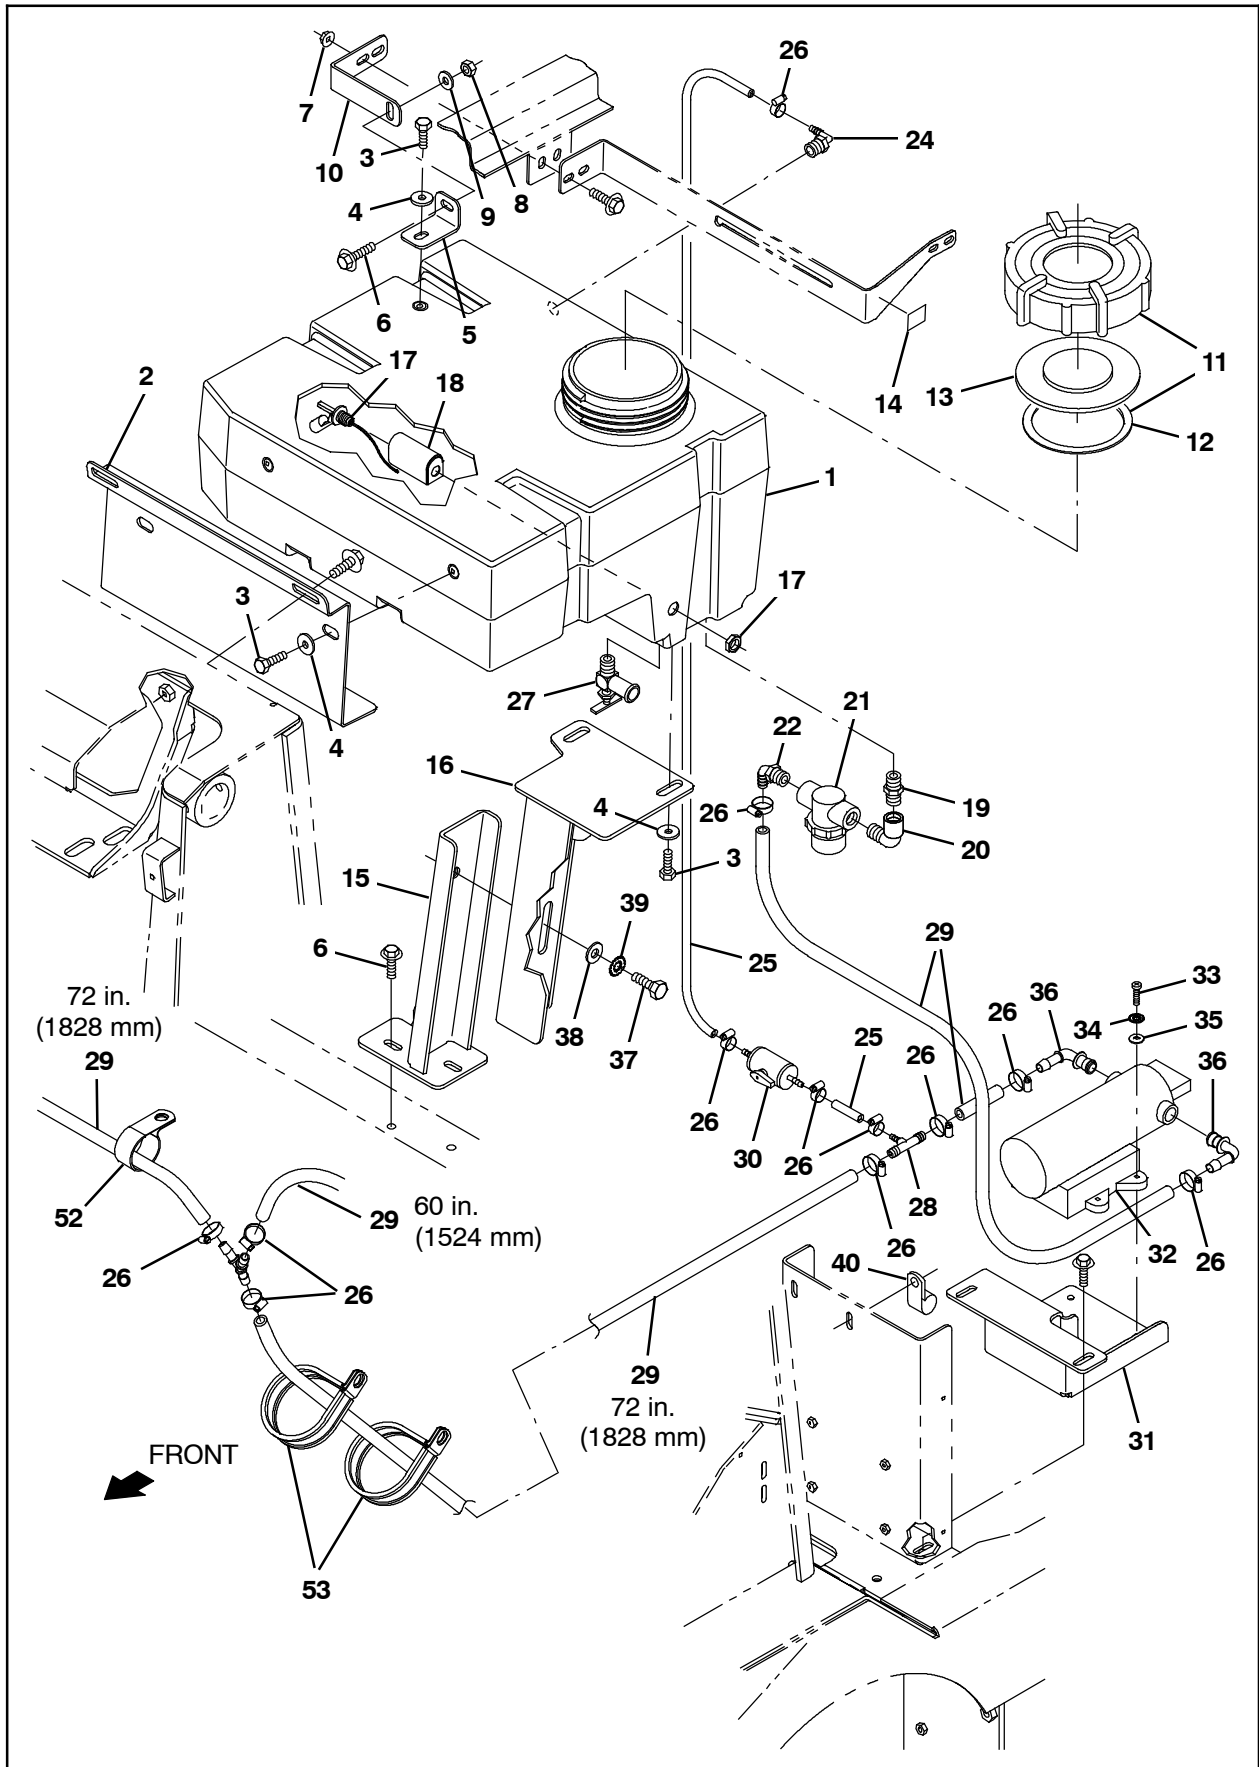
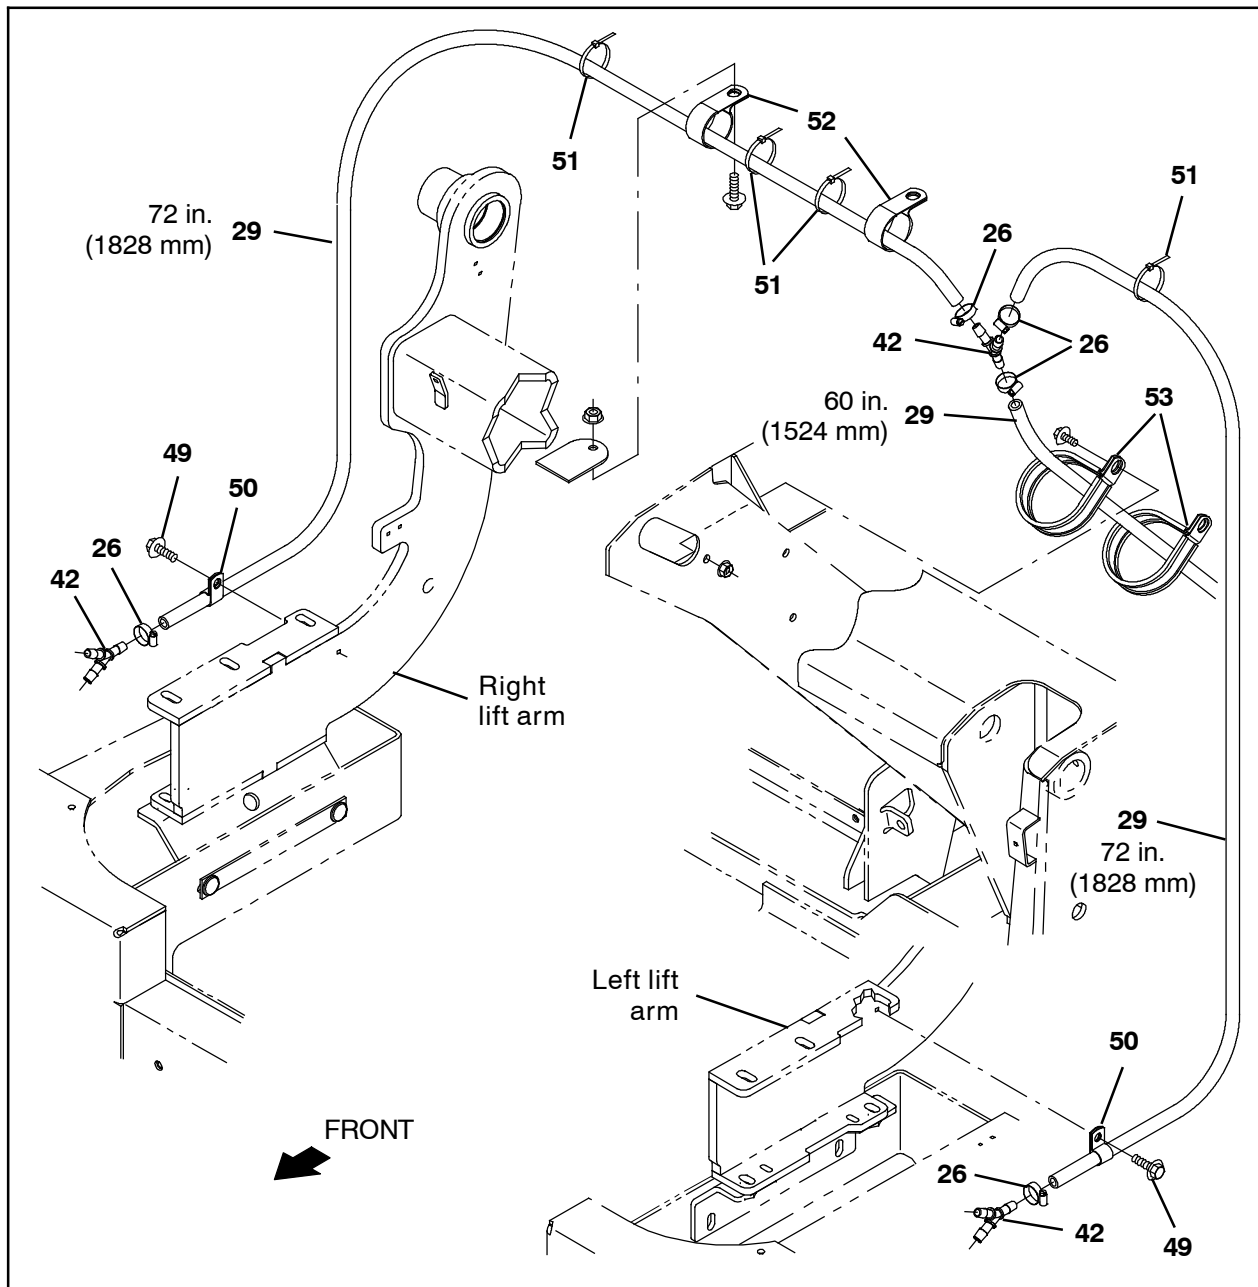

FIG. 7
FIG. 8
47. Use a cable clamp (26) to connect the 26 in. (660.4 mm) PVC hose (29) connected to the solution pump (32) to the in-line filter assembly (21). (Fig. 7)
48. Use a cable clamp (26) to connect the 42 in. (1067 mm) PVC hose (25) connected to the water tank (1) to the shutoff valve (30). (Fig. 7)
49. Remove existing cable clamps securing the side brush hydraulic hoses to the hopper lift arm assembly. Set the SEMS M8 hex screws aside. Discard the cable clamps. (Fig. 7 / Fig. 8)
50. Use the SEMS M8 hex screws from the previous step to install the new cable clamps (53) where the removed cable clamps were previously installed. (Fig. 7 / Fig. 8)
51. Route the 60 in. (1524 mm) PVC hose (29) along the side brush hydraulic hoses and through the cable clamps (53) installed on the hopper lift arm assembly. (Fig. 7 / Fig. 8)
52. Use a hose clamp (26) to connect a y-fitting (42) to the 60 in. (1524 mm) PVC hose (29). (Fig. 7 / Fig. 8)
53. Cut two 72 in. (1828 mm) lengths of PVC hose (29).
54. Use a hose clamp (26) to connect both 72 in. (1828 mm) PVC hose (29) to the y-fitting (42). (Fig. 7 / Fig. 8)